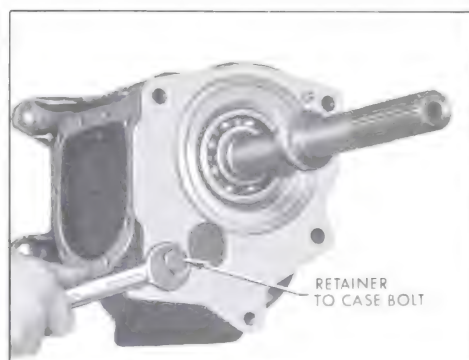

Figure 4-108—Retainer to Case Bolt
40. Install retainer to case bolt. See Figure 4-108.